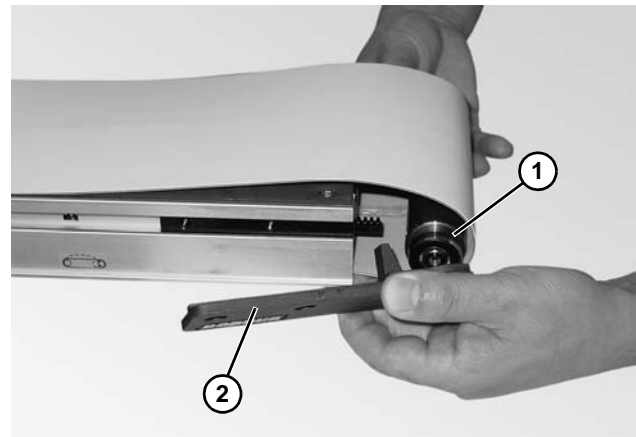

Figure 61
1. With opposite head plate installed, position the idler spindle (**Figure 61, item 1**) through the loop of the belt, into the opposite head plate.
2. Place the head plate (**Figure 61, item 2**) and attach the head plate to the conveyor frame with the two (2) screws removed and hand tighten.